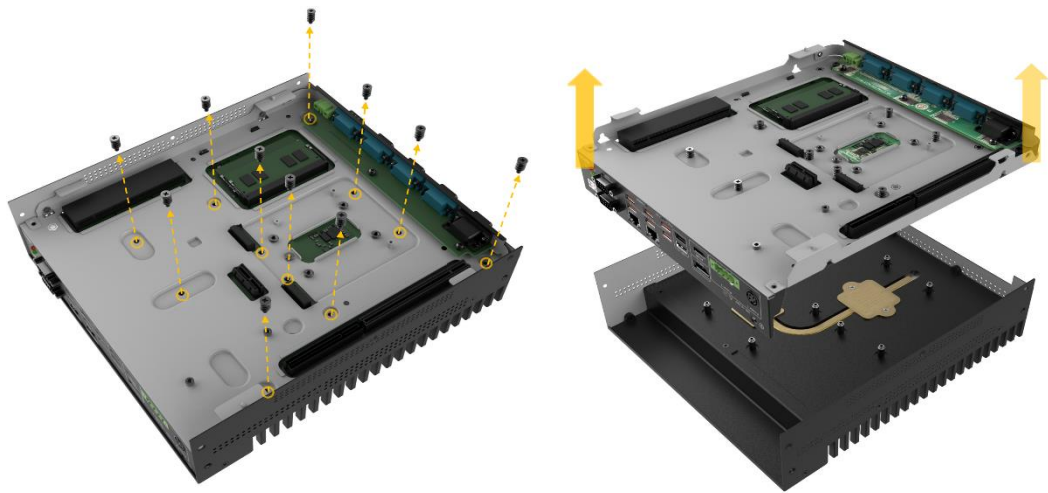

Figure 3-1: Remove the Cover
Step 2: Detach the cover from the TANK-XM813 (**Figure 3-1**).